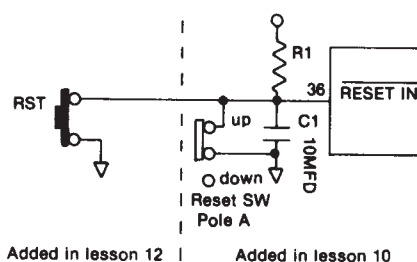

Figure 12-9
A simplified schematic of the Restart (RST) switch circuitry is shown in figure 12-9. With the Reset switch up, the **RESET IN** pin of the 8085 is at ground and the RST switch has no effect. When the Reset switch is down and the 8085 is running, pressing the RST switch places a ground (0) on the **RESET IN** pin and stops the 8085. Releasing the RST switch ungrounds the **RESET IN** pin. This has the same effect as putting pole A of the RESET switch down as described in lesson 10.